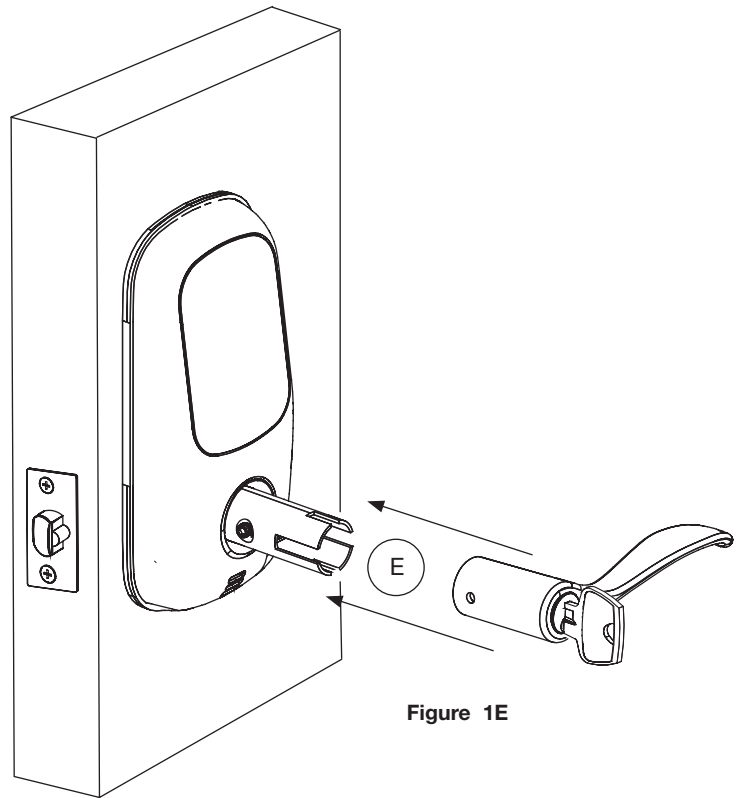

Figure 1E
E. Push lever handle (with key & cylinder) over shank until hole on handle aligns with set screw in shank (Figure 1E).